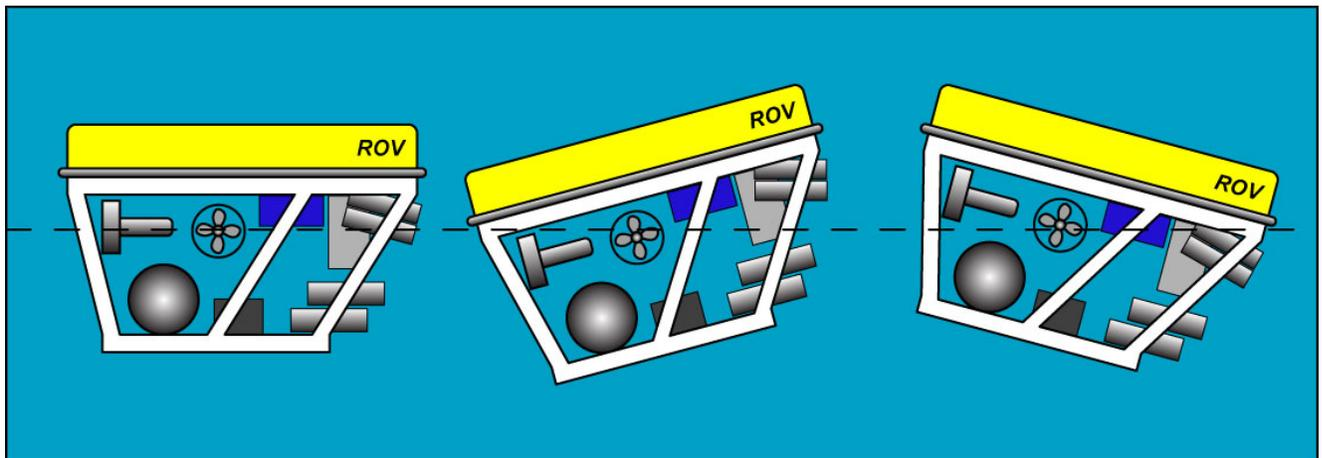

Figure 1: Level Pitch
- Pitch: The rise and fall of the front of a vehicle. The angle of the pitch is positive if the front is inclined up and negative if the nose is tilted down. See Figure 1.